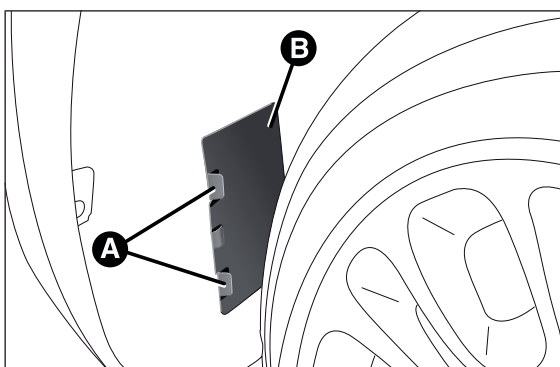

fig. 123
- ☐ adjust the screws A fig. 123 and remove the flap B;
- ☐ adjust the tabs A and remove the flap B fig. 123;